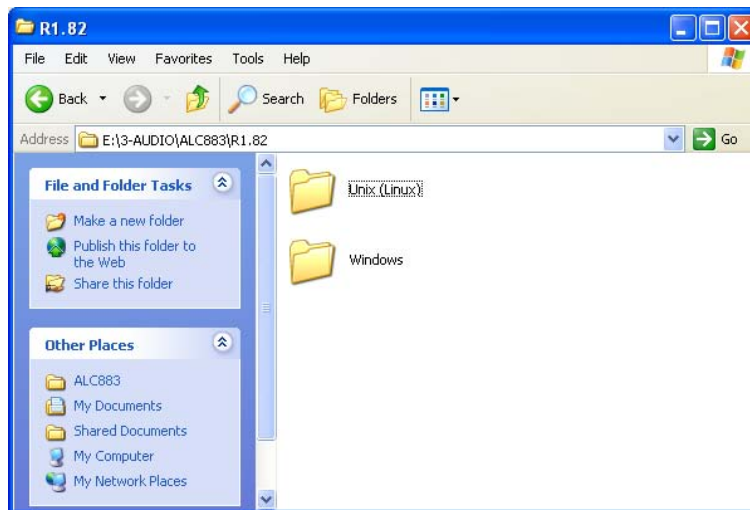

Figure 8-21: Select Operating System Type
Step 5: Select the Operating System Type installed on the system in **Figure 8-21**.